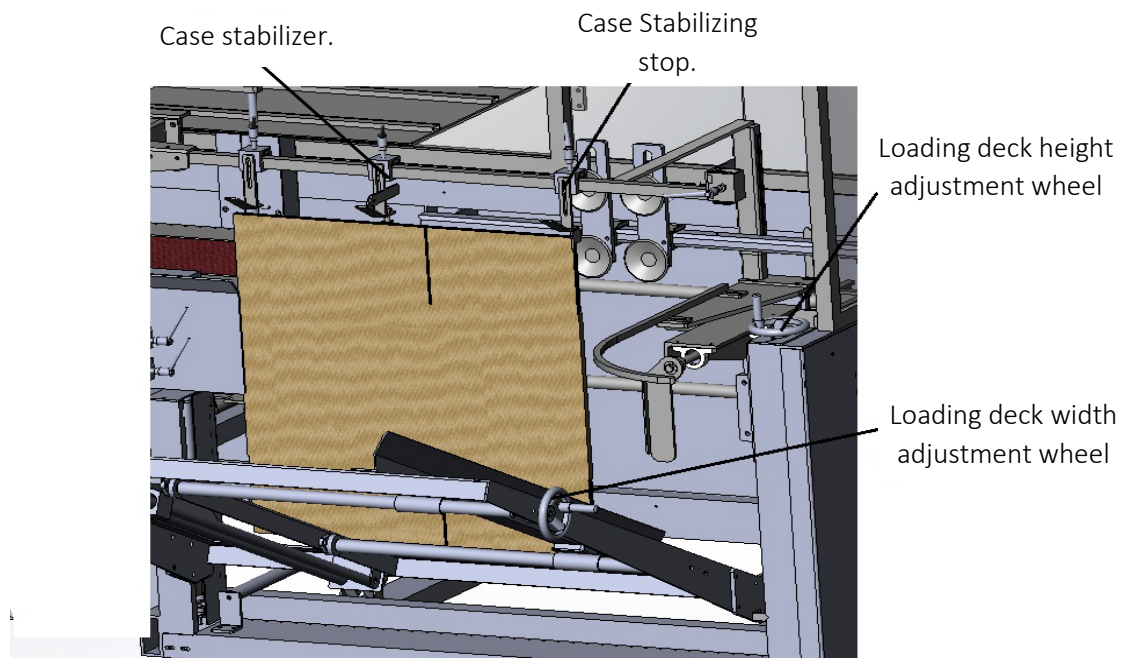

Figure 5.
- 1) Begin by placing a flat and unfolded box onto the loading deck and set the width using the hand wheel in figure 5.